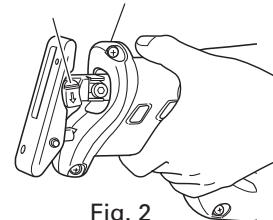

Fig. 2
(Fig. 2) Lever Front cover
- (1) Turn on and off the switching trigger several times so that the lever can jump out of the front cover completely. Thereafter, turn off the switch and unplug the power cord. (Fig. 2)